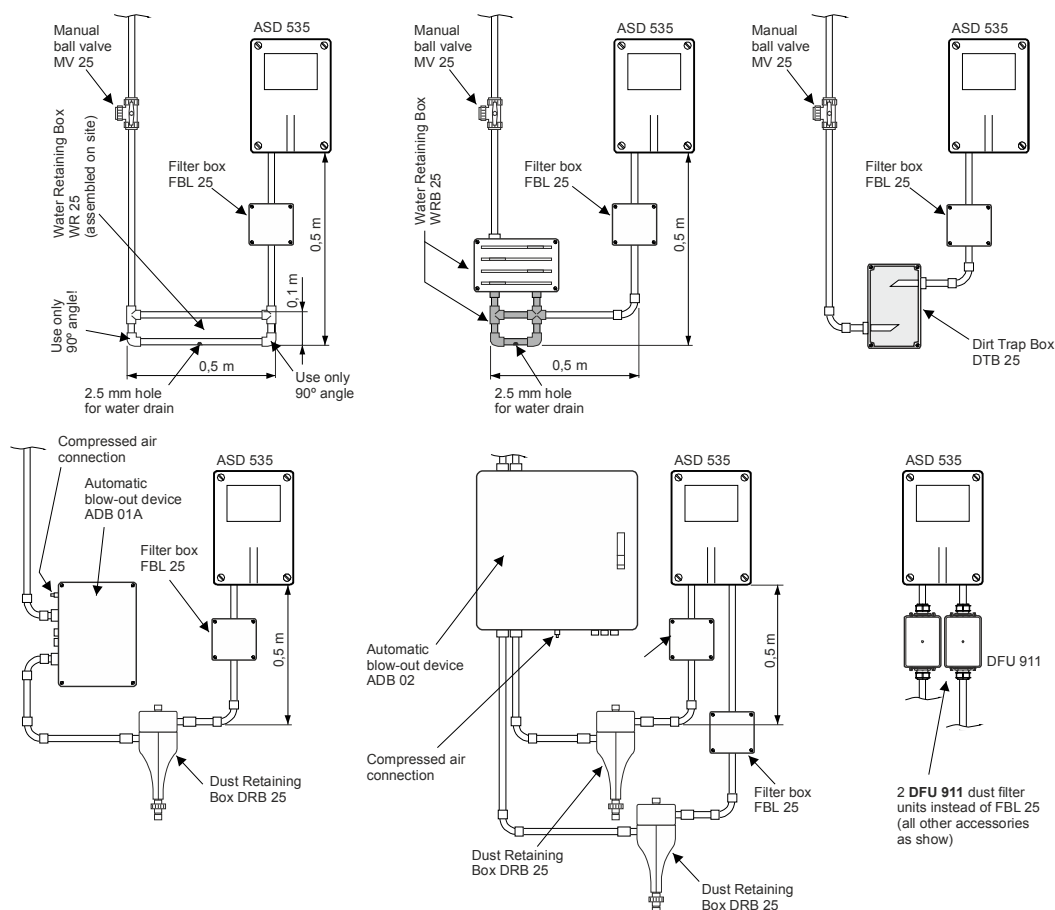

Fig. 16 Mounting accessory parts
- The mounting positions of water retaining box, dirt trap box and dust retaining box must be observed as shown in **Fig. 16**.